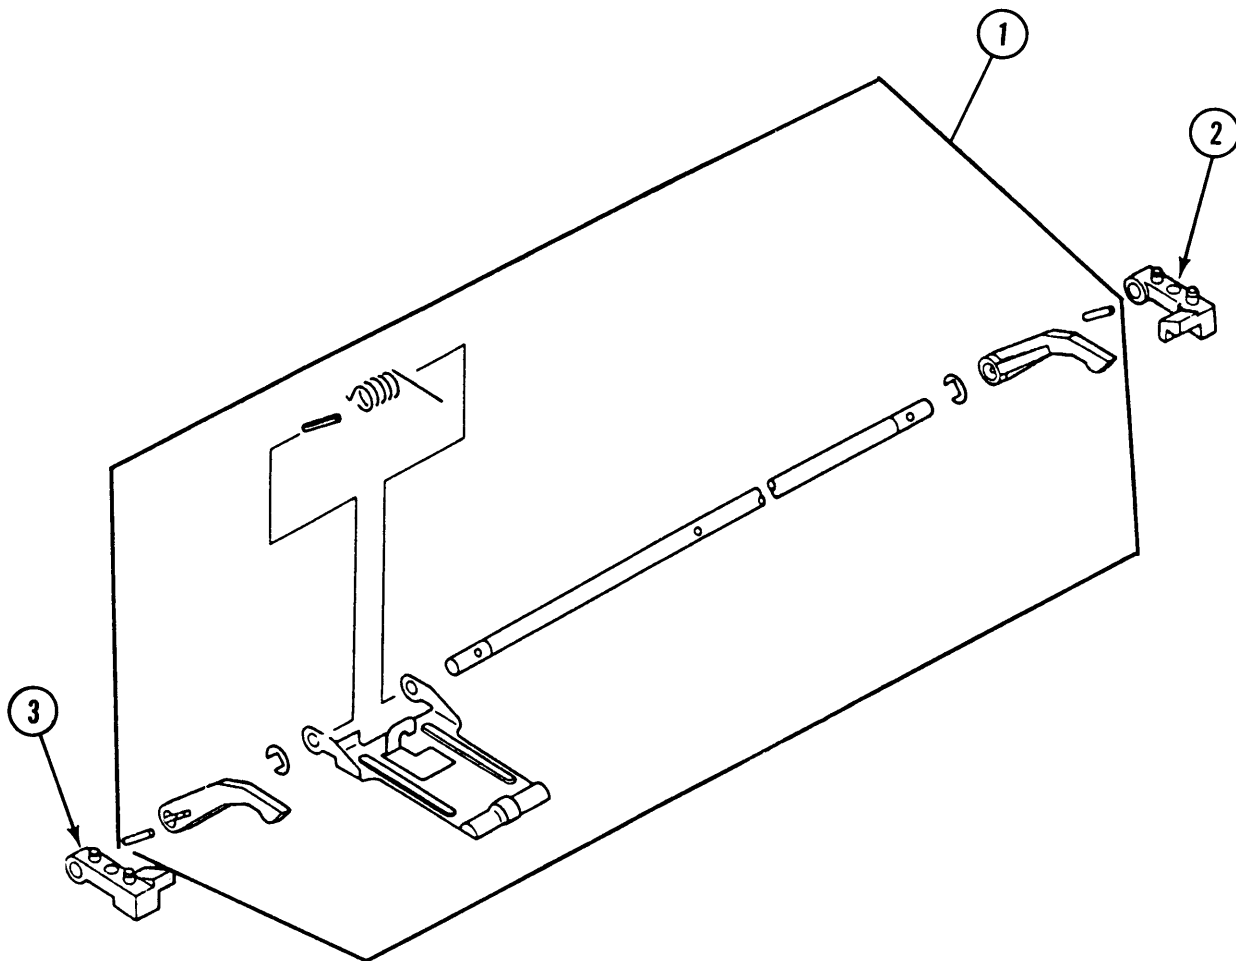

FIGURE 7
- IPL.15 Pressure Assembly (Figure 7)
□ **PRESSURE ASSEMBLY (Figure 7)**